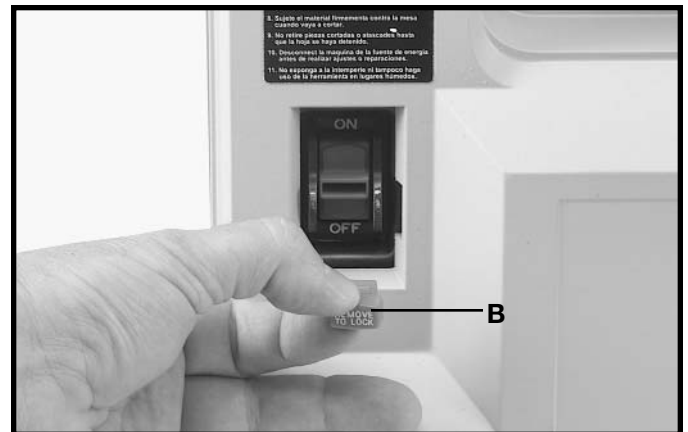

Fig. 16
IMPORTANT: When the tool is not in use, the switch should be locked in the “OFF” position to prevent unauthorized use. This can be done by grasping the switch toggle (B) Fig. 16, and pulling it out of the switch, as shown. With the switch toggle (B) removed, the switch will not operate. However, should the switch toggle be removed while the machine is running, the switch can be turned “OFF” once, but cannot be restarted without inserting the switch toggle (B).